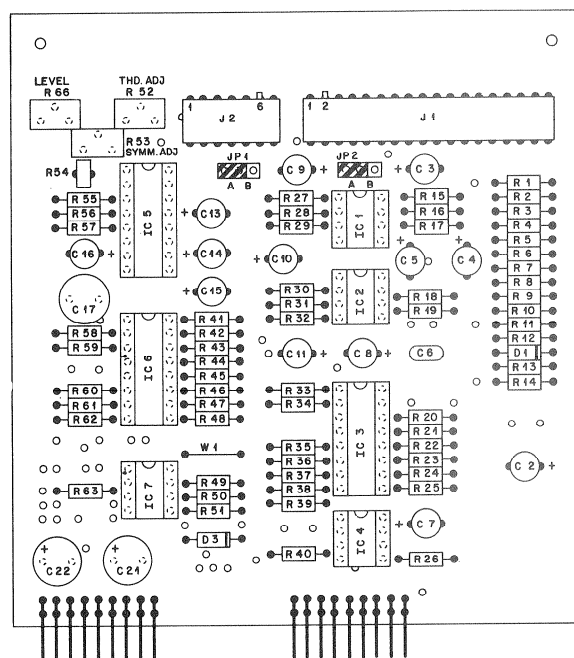

Fig.4.6.1
- Connect the audio generator (1 kHz and line level according to the jumper configuration as shown in Fig. 4.6.1) to the corresponding line input.